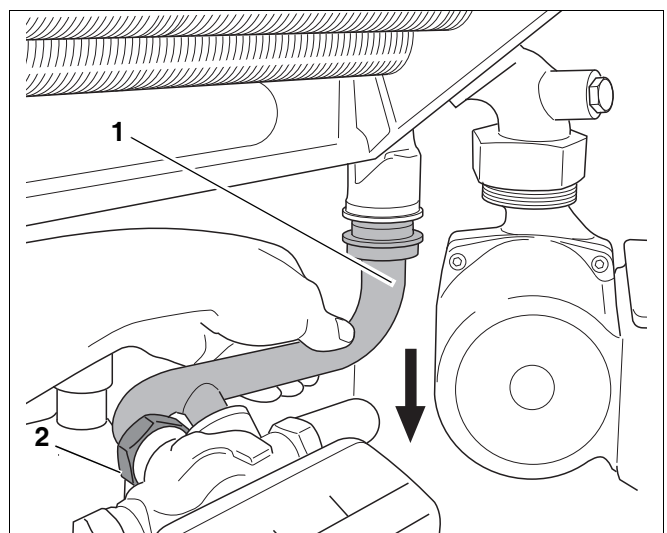

fig. 102 Removing the supply pipe
- Loosening with one turn the nut between the supply connection and three way valve connection AB (see fig. 102, pos. 2).
- Pull the supply pipe out of the heat exchanger (see fig. 102, pos. 1).